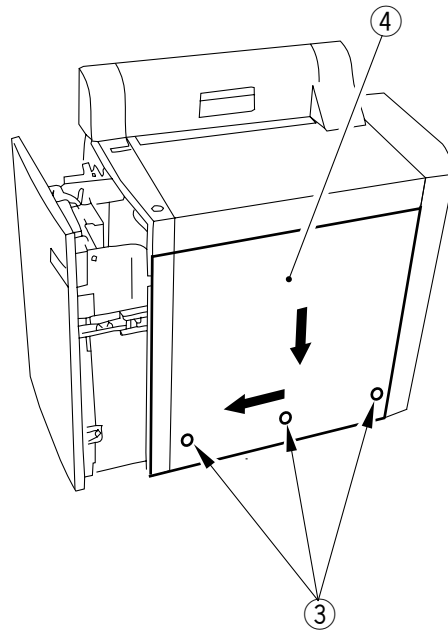

Figure 8-307
- 2) Remove the three screws ③, and shift the right cover ④ in the direction of the arrow (Figure 8-307) to remove.